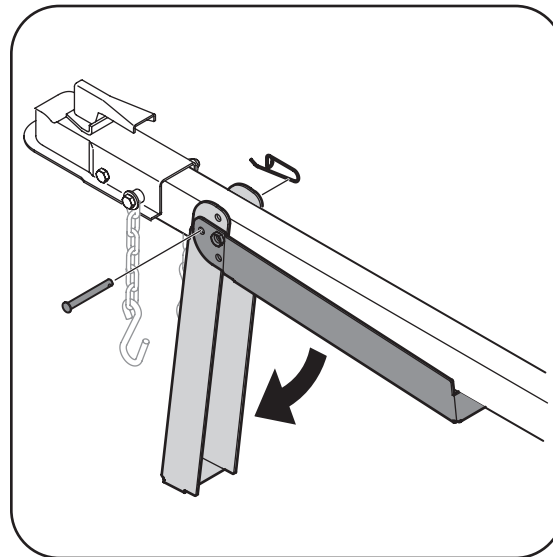

Figure 3-2
2. Secure the jack stand in position with the clevis pin and spring clip. See Figure 3-2.